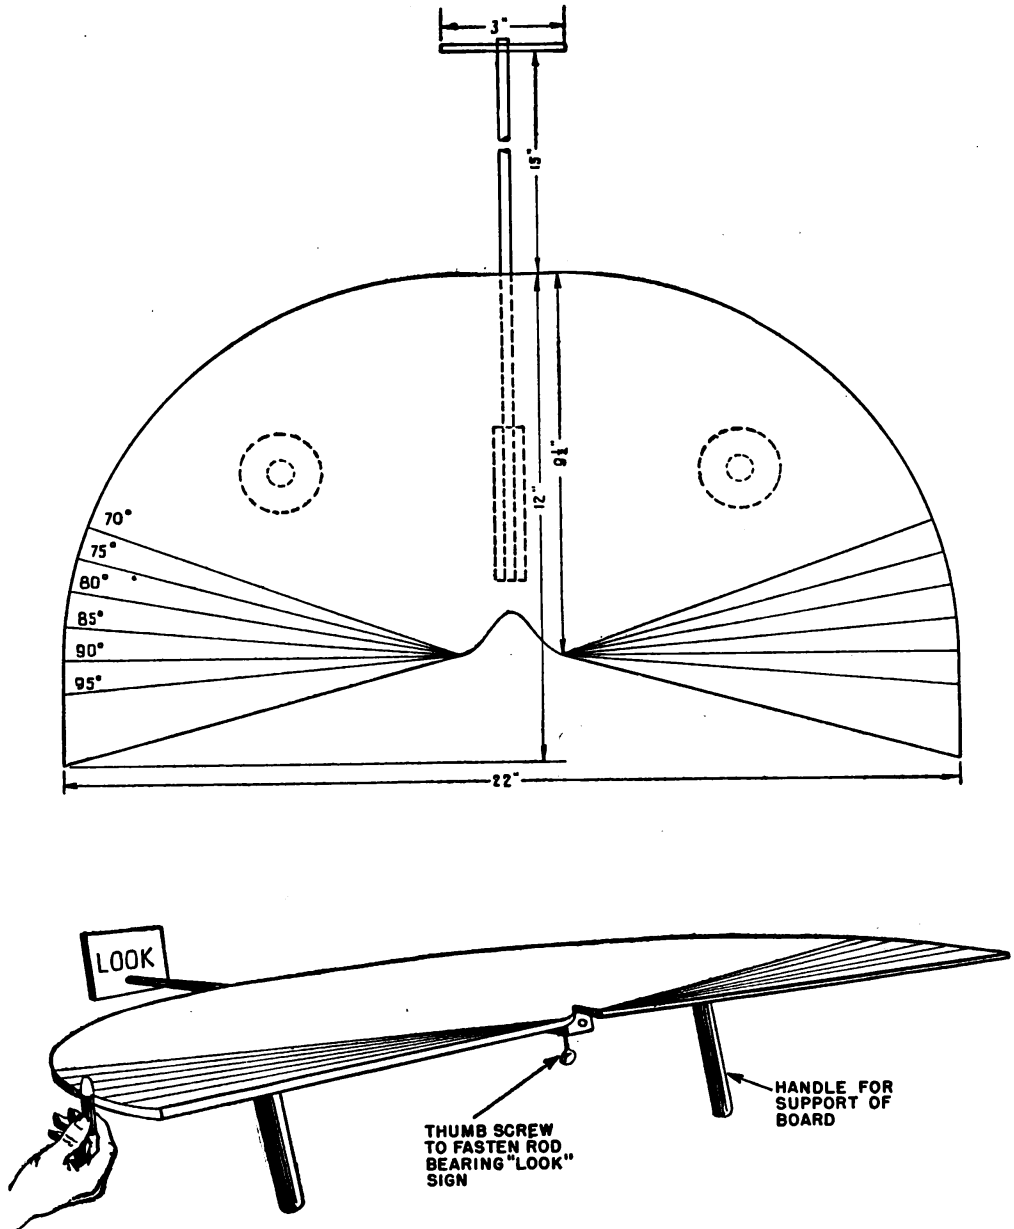

FIGURE 2.—Equipment for field of vision test.
(2) *Equipment.*—Necessary equipment includes the simple device shown in figure 2 and a piece of white chalk or a similar object. The device itself is made of 1/4-inch plywood board; heavy cardboard may be used as a substitute.
moving the piece of chalk, the hands and arms should be concealed under the device.) The point at which the subject first sees the moving object represents the extent of vision to the left side. The edge of the board (see fig. 2) is marked in degrees so that a numerical value can be